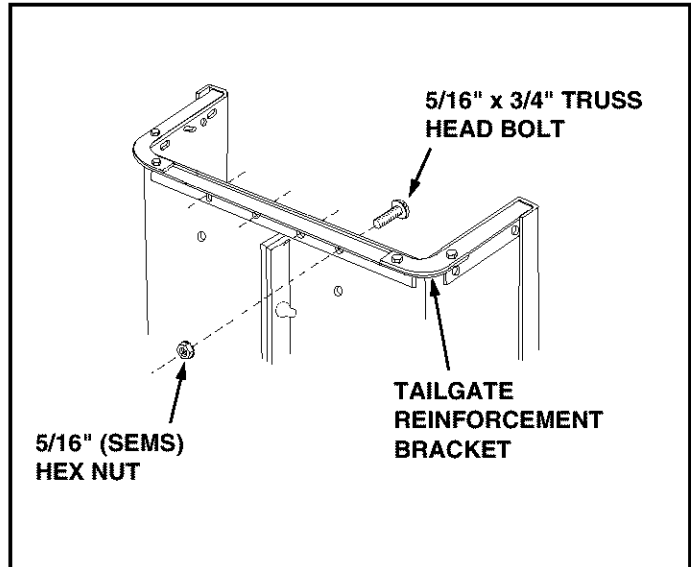

FIGURE 2
- Fasten the tailgate reinforcement bracket to the bottom of the cart body using four 5/16" x 3/4" truss head bolts and 5/16" (SEMS) hex nuts as shown in figure 2. **Do not tighten yet.**